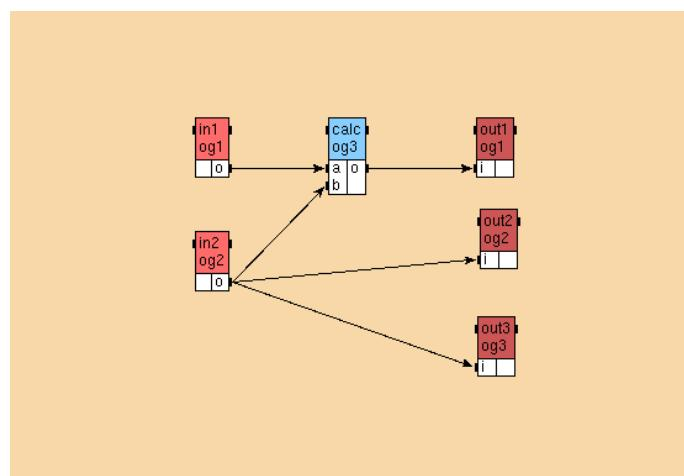

Figure 1.25: Algorithm with constraints
- The algorithm with constraints looks like the figure 1.25.